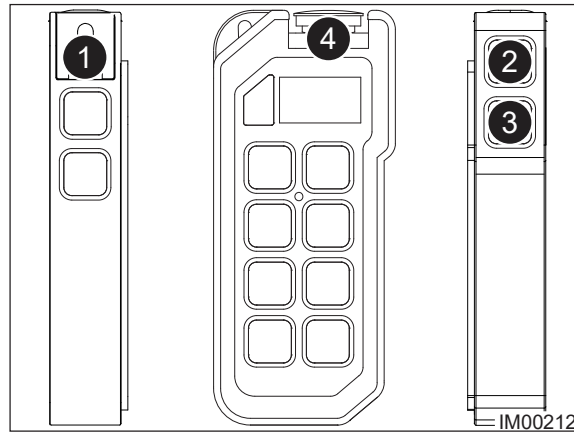

Fig: 8.6 - Radio Remote Handset
6. On the radio remote handset, push the Toggle Switch (Item 1, Fig: 8.6) to the Left, Screener position.
7. Turn on the remote control by pressing the Green Activate Handset button (Item 2, Fig: 8.6) on the side of the handset.
8. Press the Green Activate Handset button (Item 2, Fig: 8.6) a second time to activate the handset.
10. On the radio remote handset, press the Auto Run button (Item 3, Fig: 8.6).